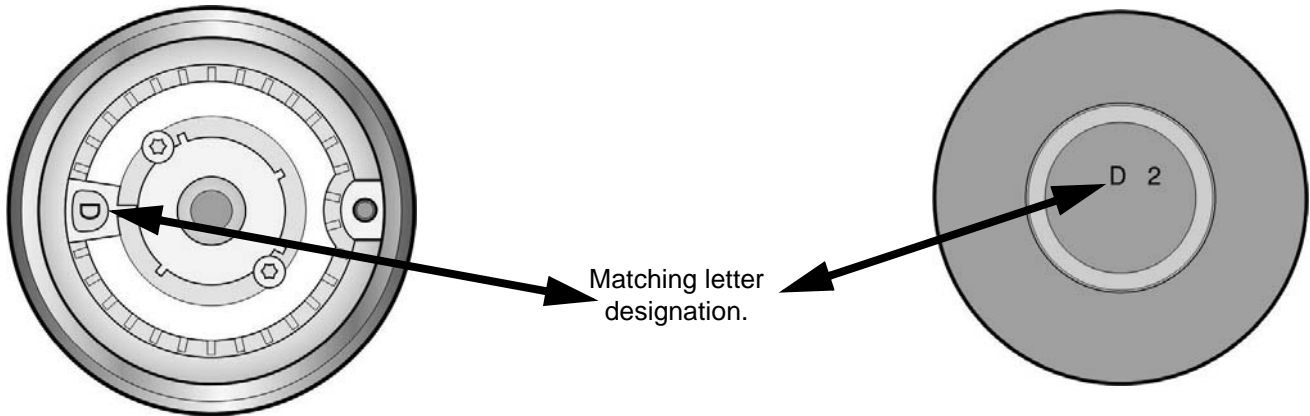

Figure 9: Burners Caps
- After electrical connection is complete, place each burner cap on its correct burner base per its corresponding letter designation. See *Figure 9 "Burners Caps"* on page 8.